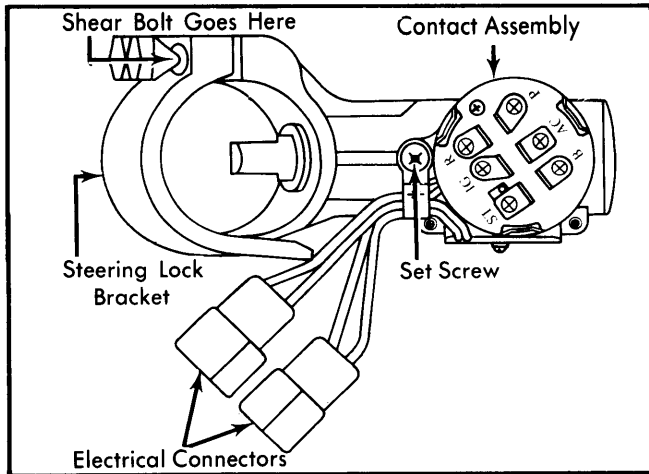

Fig. 2 Exploded View of Ignition Switch Assembly (Except B2000)
2) Remove upper shroud screw from bracket on column. Loosen pinch screw holding switch assembly to column. See Fig. 2. Separate shroud from switch assembly. Remove switch mounting screw. Separate ground at electrical quick-disconnect. Separate turn signal and wiper/washer switches.
Removal (Except B2000) — Remove steering wheel as previously outlined. Remove column shrouding. Remove combination switch. Disconnect electrical connector. Remove screw attaching switch contact (See Fig. 2) housing to steering lock body and slide out contact housing.